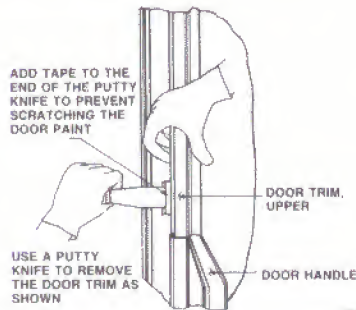

FIGURE 1
1. First remove the upper and lower door handle trim from both doors. See Figure 1.